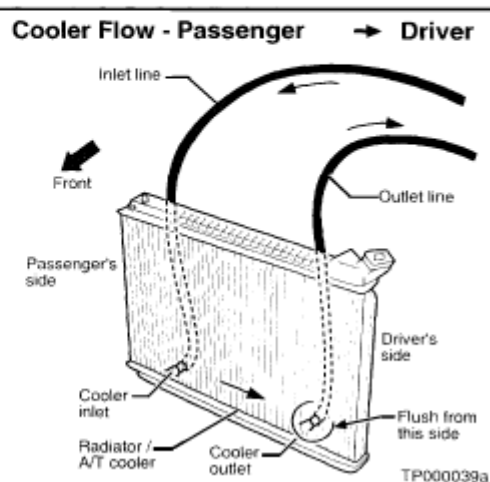

Figure 1B
| 1990 and later | All | Passenger Side | Driver Side | see Figure 1B |
* **NOTE:** Always flush coolers from the **Cooler Outlet Side** (see Figure 1B for reference).
| 1990 and later | All except those listed below | Passenger Side | Driver Side | see Figure 1B |
| 2003 and later | FX35 (2WD) | Passenger Side | Driver Side | see Figure 1B |